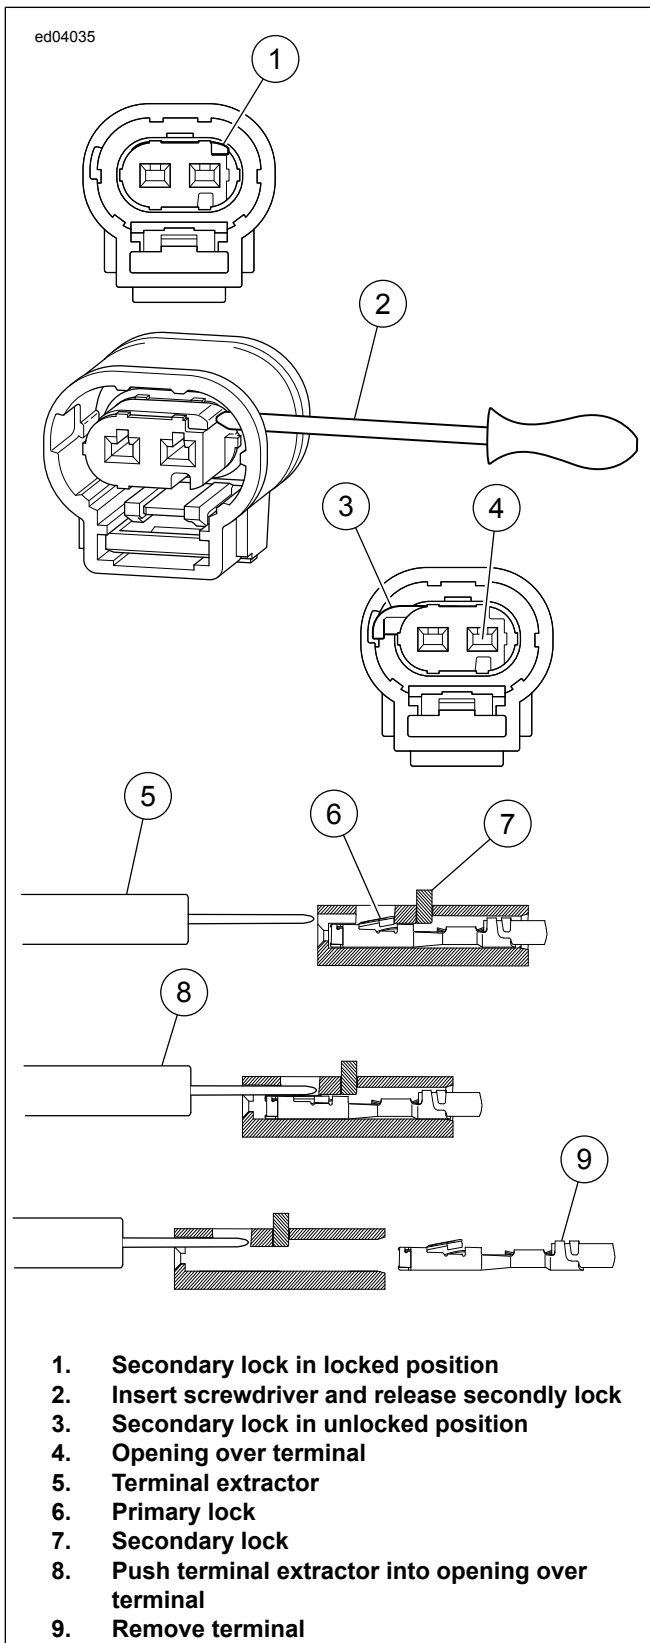

Figure B-25. Terminal Removal
1. See Figure B-25. Using a screwdriver, insert in hole in side of protective Housing and release the secondary lock.